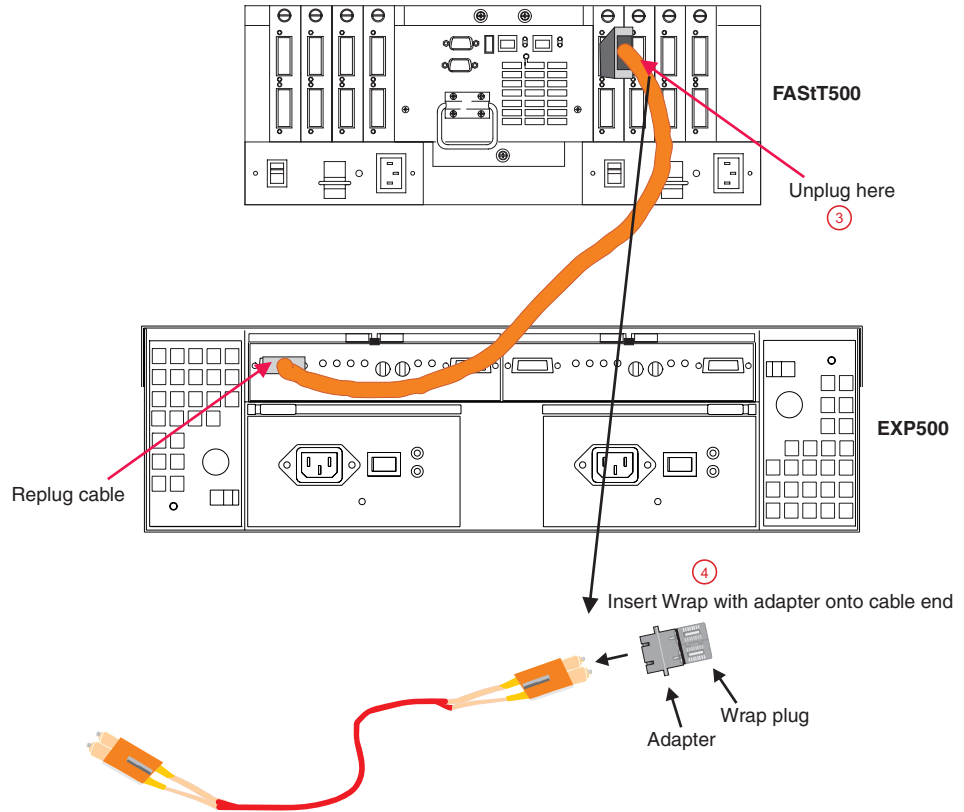

Figure 158. Insert wrap plug with adapter on cable end
4. Insert a wrap plug with an adapter onto the cable end. See Figure 158 on page 327.